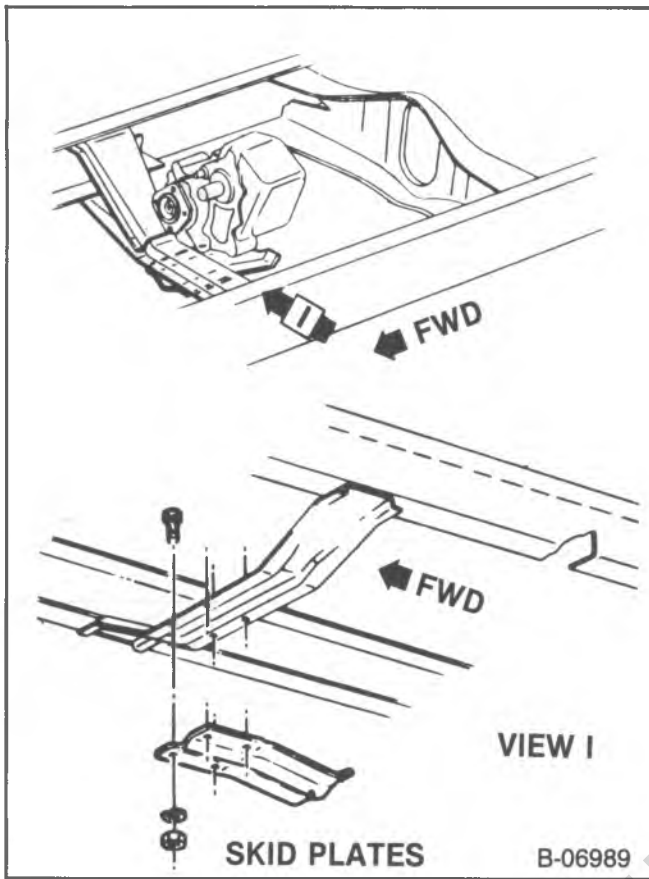

Figure 7—Skid Plate Installation
8. Skid plate (figure 7).
6. Skid plate (figure 7).